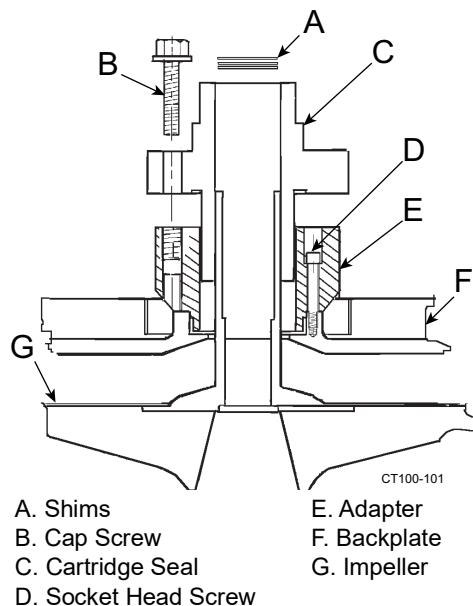
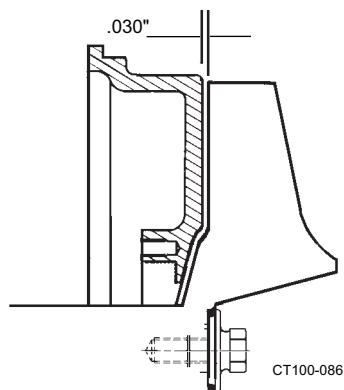

Figure 52 - Remove Seal Assembly.
Figure 53 - Clearance Between Impeller and Backplate
NOTE: The clearance shims that position the impeller within the casing are at the end of the impeller hub (inside the seal.) Keep the shims together as a set for reassembly (Figure 52).
1. Remove the cap screws (Figure 52, item B) holding the cartridge seal to the seal adapter (Figure 52, items C and E).
3. Pull the seal from the seal adapter. (Figure 52, items C and E)
4. Remove the seal adapter by removing the socket head cap screws (Figure 52, item D) holding the adapter to the backplate.
2. Check the impeller/backplate clearance with the backplate held firmly in position against the motor adapter. Check the space between the back of the impeller and the backplate with a feeler gauge (0.030" nominal) while holding the backplate tight against the bearing housing flange. Any axial movement of the shaft should not be added to the 0.030" nominal clearance (Figure 53). If needed, change this clearance by adding or removing shims. Shims (Figure 52, item A) are added on the drive shaft behind the impeller shaft (Figure 52, item G).